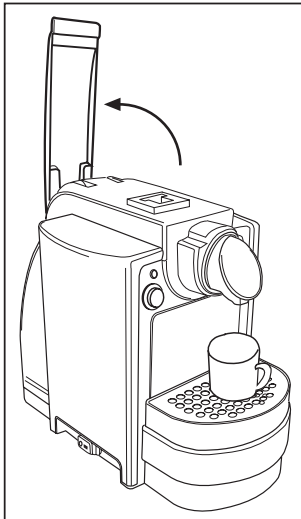
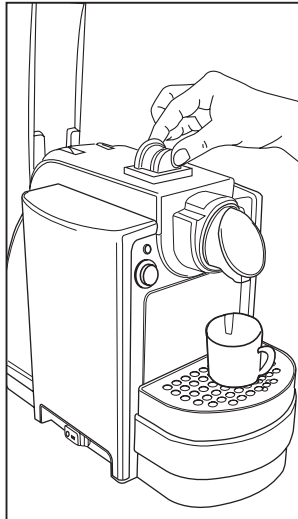

Fig. 8
Fig. 9
- Slowly lift the control lever (1) back (until it stops)(**Fig. 8**) and introduce a capsule in the slot provided (**Fig. 9**).
- Slowly lift the control lever (1) back (until it stops)(**Fig. 8 page 21**) and introduce a capsule in the slot provided (**Fig. 9 page 21**).